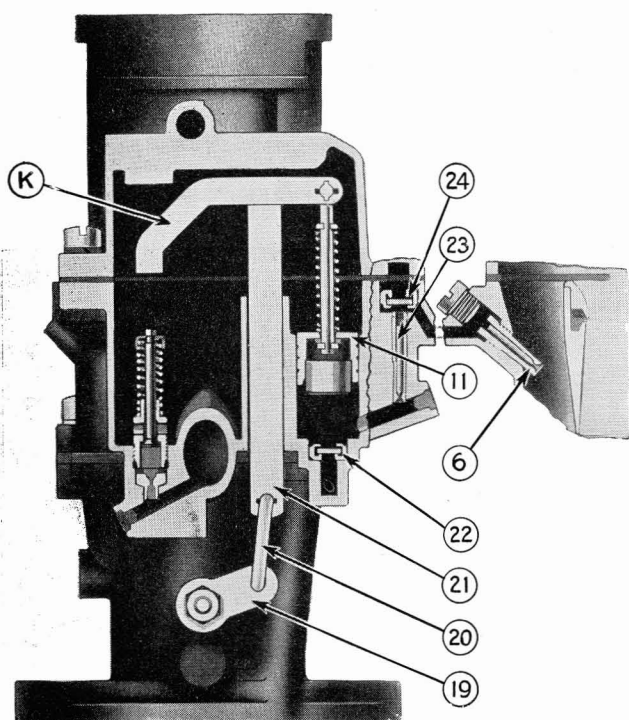

Figure 4
All gaskets (gasket set C181-1 includes them); C81-1 fuel valve and seat (size #35 is suitable for settings up to a #29 venturi in an 11 size, #40 seat for #30 venturi and up to 11 size, and #45 seat for all 12 size carburetors); C85-1 float assembly; C120-4 float axle; For 20 Series use C51-1 main jet and C50-2 cap jet base (see note below); For 23 Series use C51-10 main jet, C61-9 cap jet base retainer and C50-5 cap jet base; C58-1 cap jet calibration; C52-1 compensator jet; C56-1 idling jet; C53-1 power jet; C35-3x3 accelerating pump assembly; C33-1 pump rod for carburetor with vacuum power jet or C33-2 pump rod for mechanical power jet as shown in Fig. 4; T82-3 pump refill check ball; C120-12 pump refill check ball weight; C135-2 retainer washer; CR41-1 check valve assembly (2 required); CR137-37 lead shot channel plug (6 required); C91-1 or C91-2 vacuum cylinder assembly; (see note below); C136-3 throttle
- C31-1 —is the short lever. (See 19 in Figure 4).
The first two (C97-1 and C97-6) are used only with vacuum cylinder assemblies C91-1 or C91-2 and pump rod C33-1, while the last two (C97-8 and C97-9) are used with C33-2 pump rod for mechanical operation of power jet (See Fig. 4) in which case, the vacuum cylinder assembly is omitted and the channel plugged with C138-5 channel screw and gasket. (See Note D.)